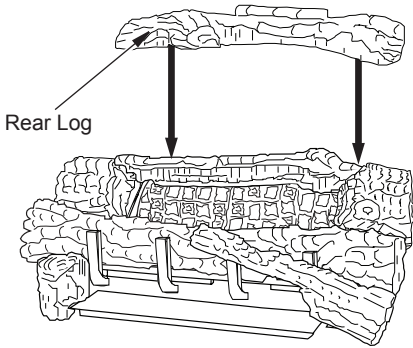

Figure 41 - Installing Rear Log
8. Rest rear log in back corner sections of chassis assembly as shown in Figure 41.